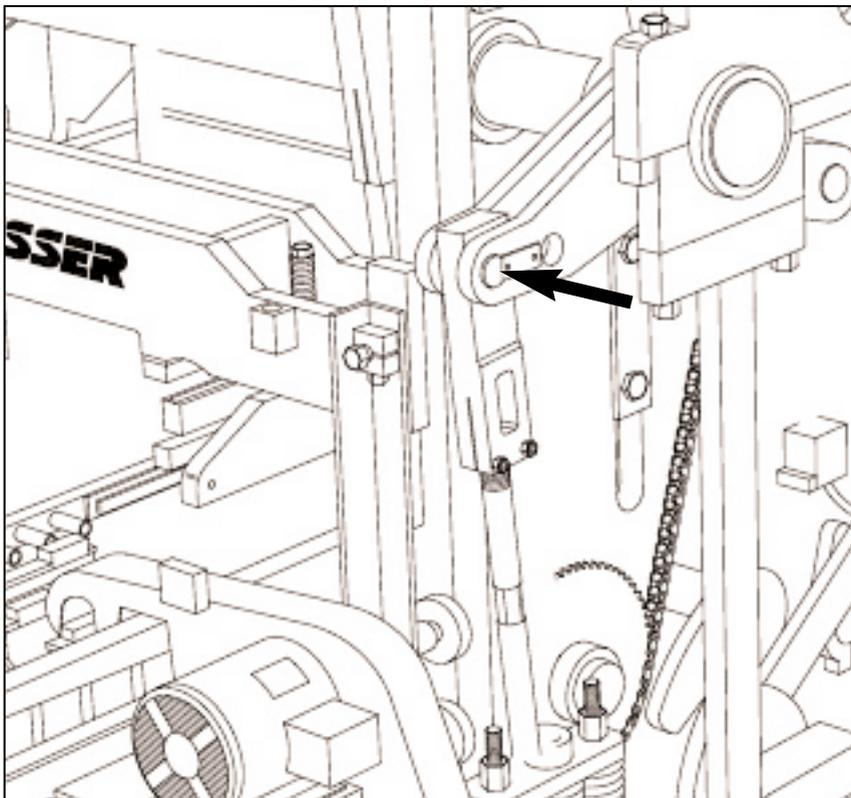

Figure 18.20 PALLET RECEIVER SHAFT POSITION.
18.2.1 The following items should be positioned as shown in figures 18.20 and 18.21:
a. Pallet receiver shaft - position pins in outside holes (long stroke) (see figure 18.20 below).